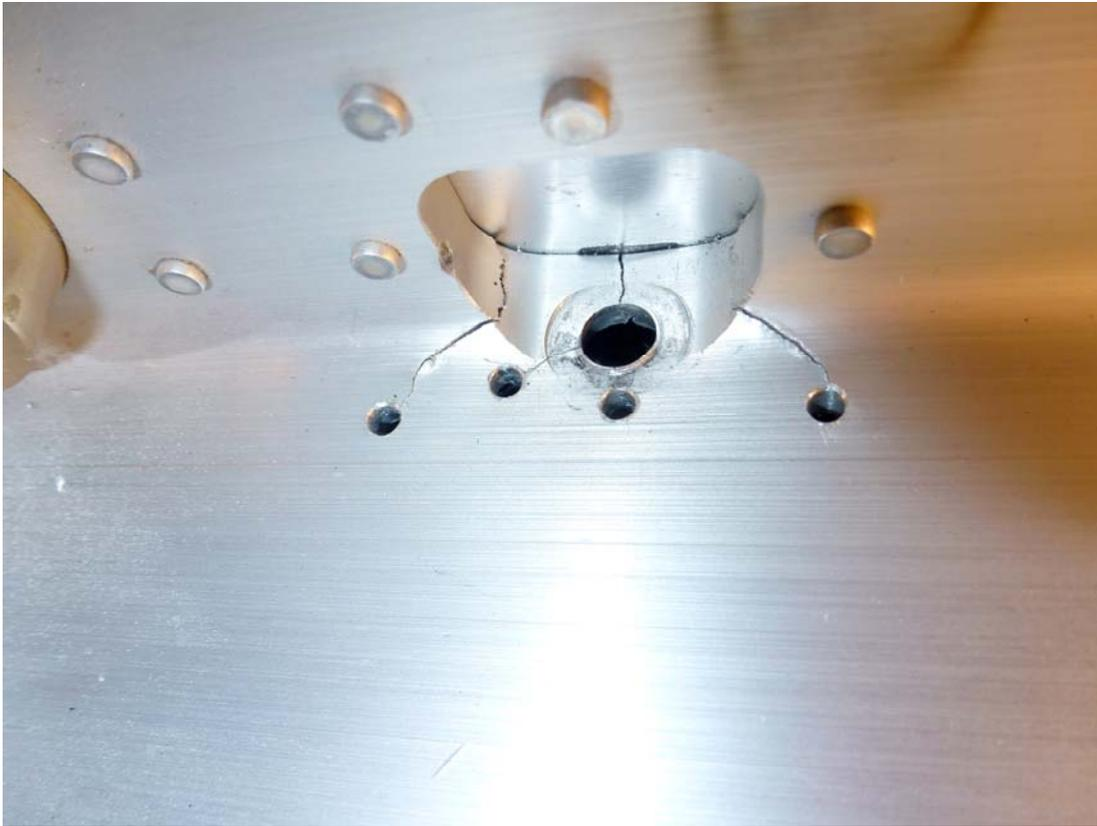

FIGURE 16: CENTER SECTION CRACKING
Step 33: Thoroughly clean the area and remove any primer or paint around the cracked region shown in Figure 16. Inspect the areas around the forward U-1202 Outboard Main Gear Attach Bracket hole in the F-1204 Center Section Assembly.